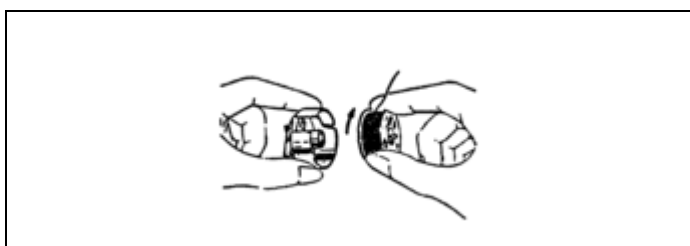

Fig. 8.
10. MONTAGEM DA BOBINA (Fig. 8, 9, 10 e 11)